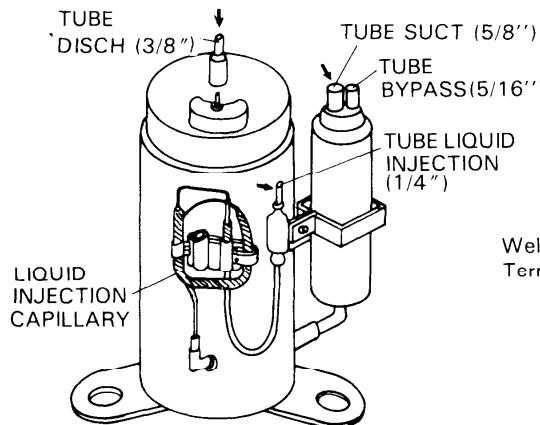

Fig. 23
- 5) With an Oxy-Acetyline torch apply heat uniformly and unbraze the joints of upper section of the Liquid Injection Capillary tube to the compressor, the upper section of the accumulator and the upper section of the compressor discharge tube respectively, and pull them free with pliers. Fig. 23 shows unbrazing points with arrows.